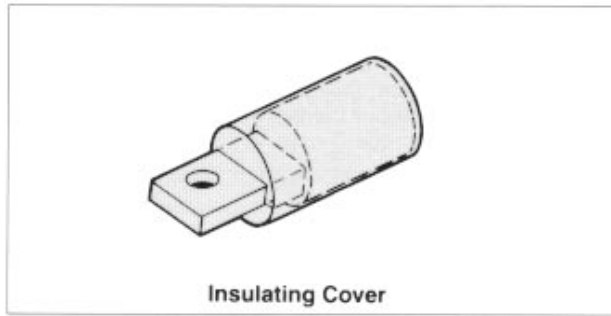

Figure 3
- Slip insulating cover over connector tang and then over connector barrel so that only the connector tang is exposed (Figure 3).